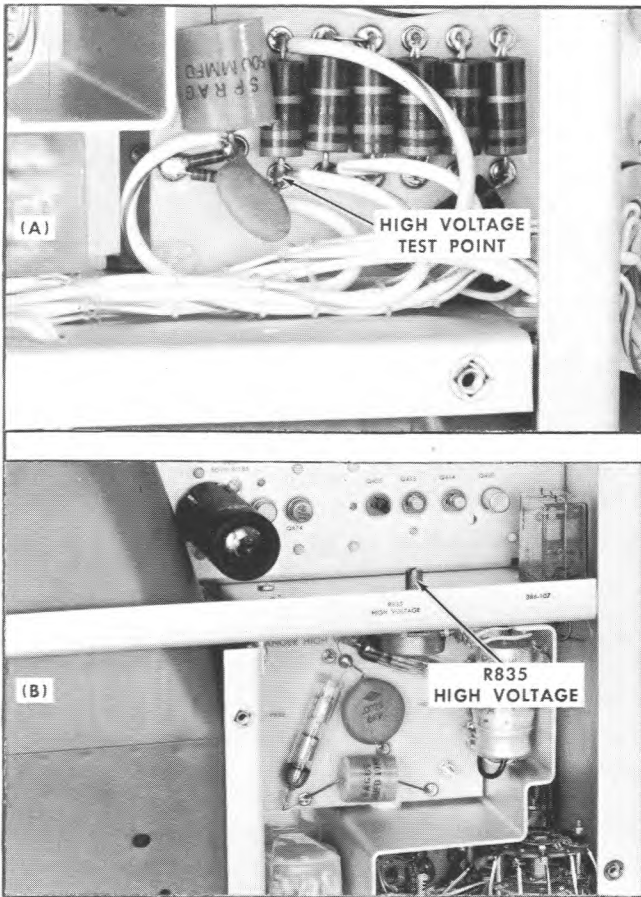

Fig. 6-5. Location of (A) high-voltage test point, (B) HIGH VOLTAGE adjustment.
- b. Connect the DC voltmeter between the CRT cathode (see Fig. 6-5) and ground.
- g. Adjust the HIGH VOLTAGE control (R835; see Fig. 6-5) to obtain a meter reading of -5300 V.